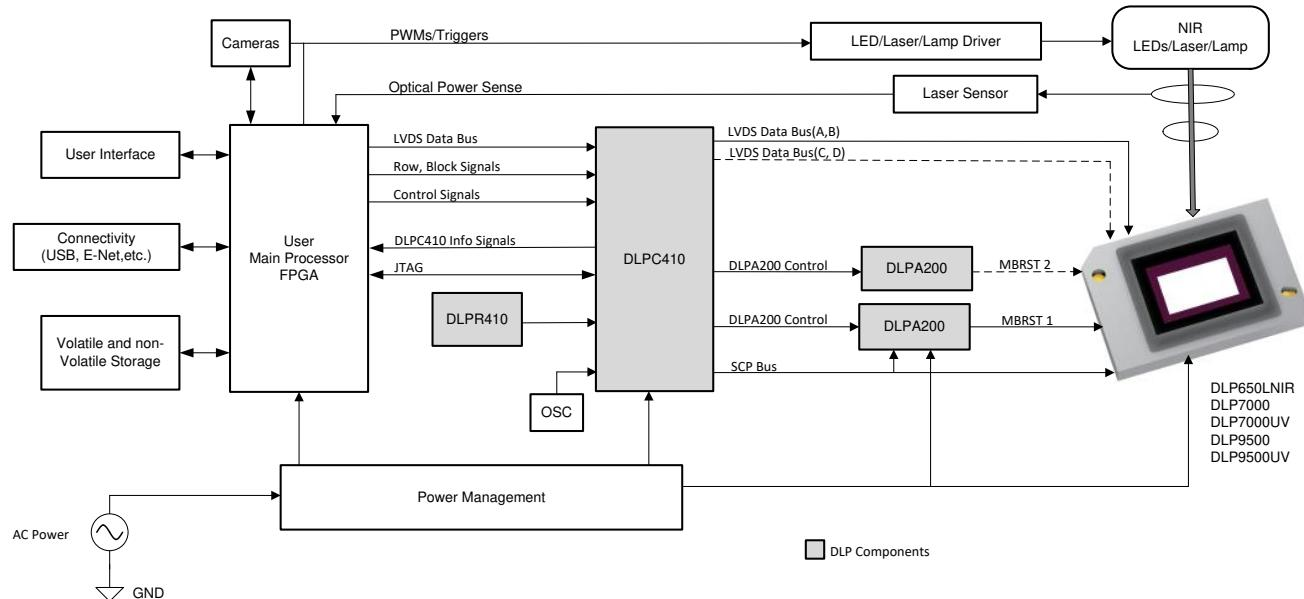

Figure 21. DLPC410 Application Example Block Diagram
A typical embedded system application using the DLPC410 controller is shown in Figure 21. The DLPC410, the DMD, and their associated DLP components do not specifically determine the application in which the components are used - customer applications and use cases may vary widely, from Digital Image Lithography to 3D Printing to 3D Scanners using Structured Light. The DMD is capable of being used with multiple illumination source types, from Lasers and LEDs to wide band wavelength mercury halide lamps. The DLPC410 supported DMDs cover applications utilizing ultraviolet (UV), visible, and/or near-infrared (NIR) wavelengths. The duration of each binary pattern displayed on the DMD is totally under control of the Applications Processor. The displayed patterns could be strictly binary patterns or could be bit weight exposures of varying durations representing
In Figure 21, the MBRST 2 signals and the C, D LVDS Data buses are shown with dashed lines to indicate that some DMDs do not require these signals to be used. TI's Reference Design and Evaluation Modules leverage a DLPC410 Controller Board which supports all 5 of the DLPC410 supported DMDs. The performance differences for each application are determined by which DMD Board is plugged into the Controller Board. This provides a single DLPC410 design platform which can then be used for multiple customer SKUs within an application platform for product segmentation purposes.